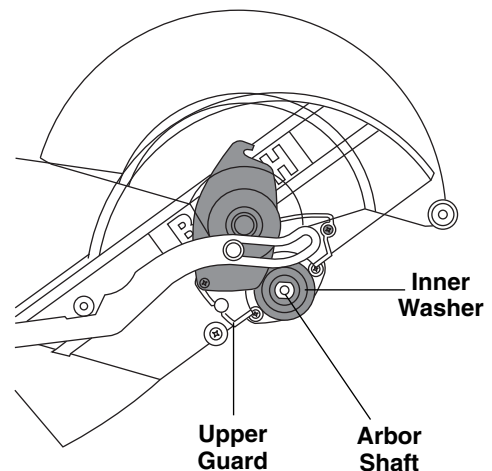

Figure 3. Blade Installation
6. Install 10" blade onto the arbor shaft (Figure 3).